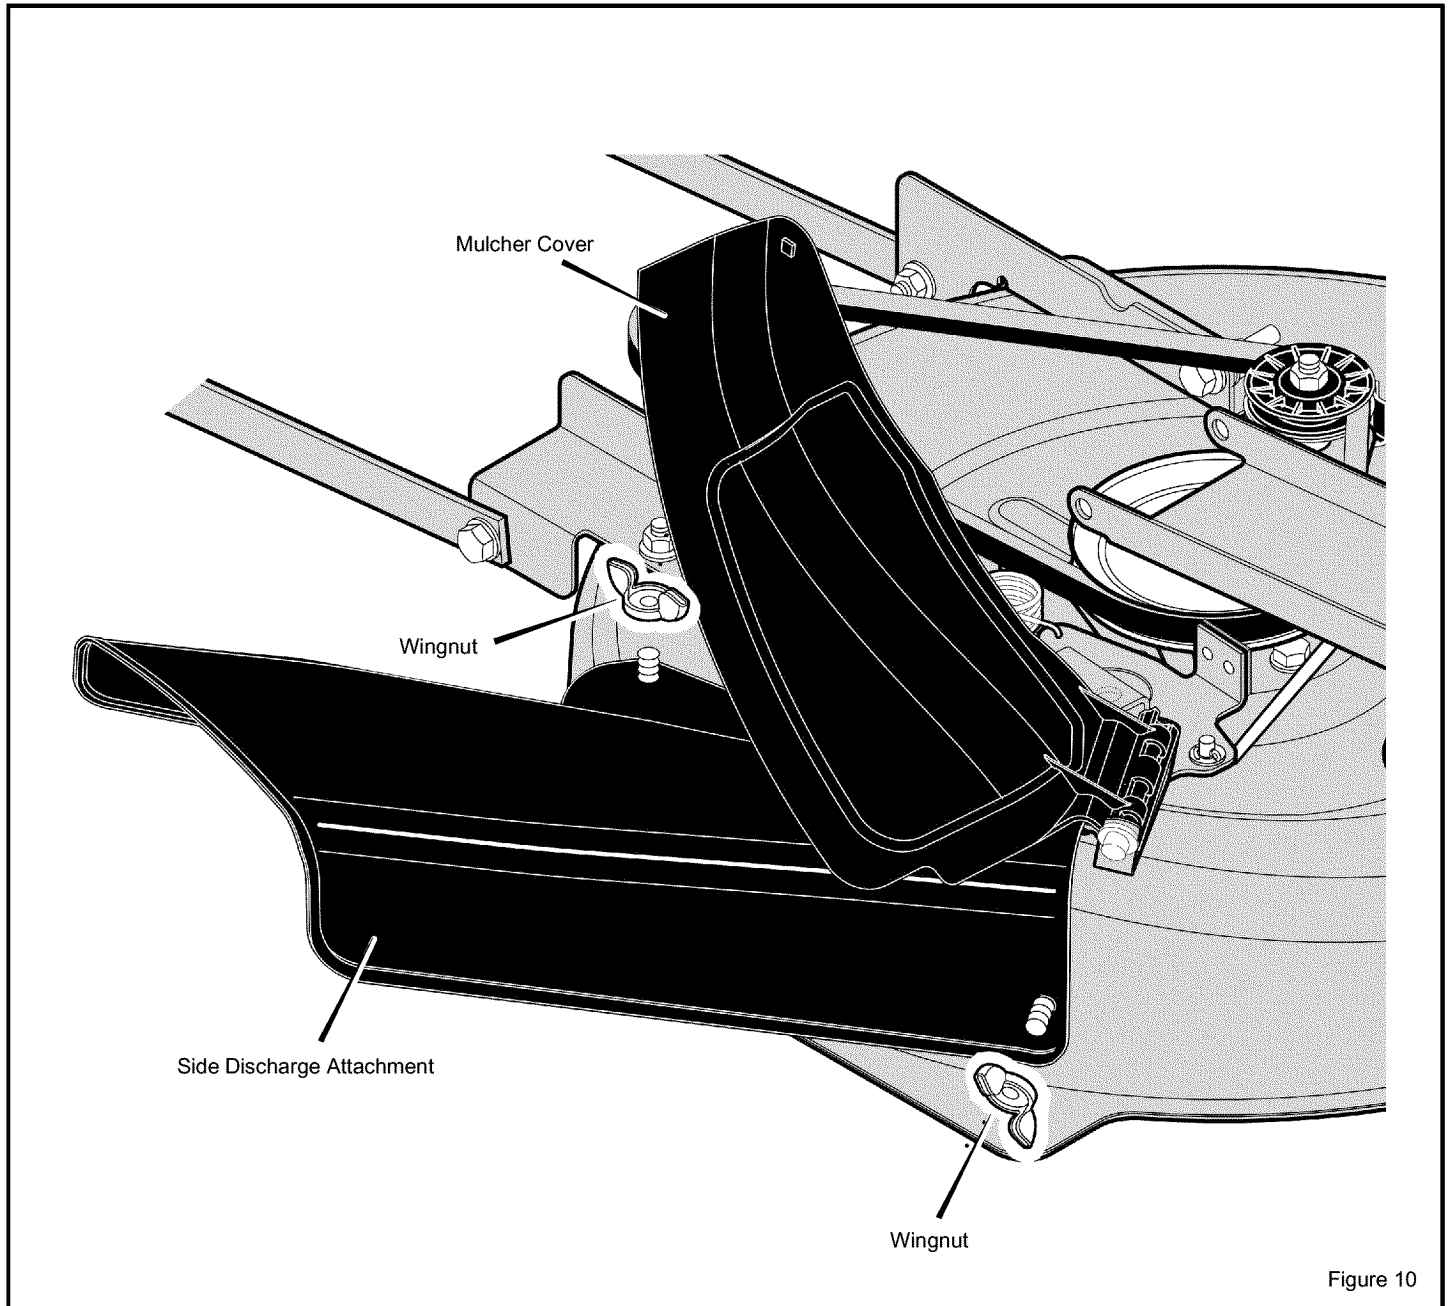

Figure 10
1. Remove the two **wingnuts** (see Figure 10).